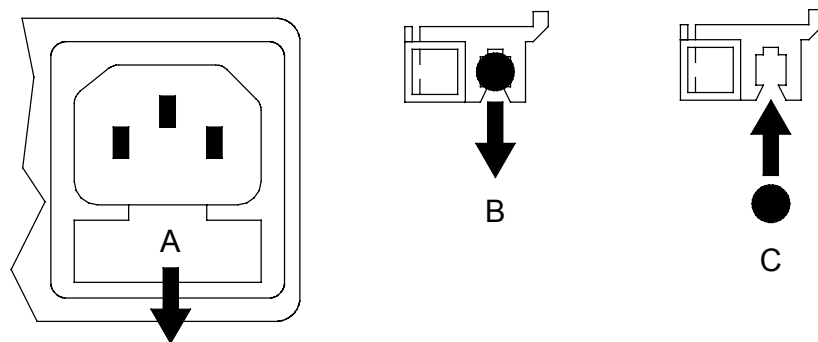

Figure 11 – Changing the Mains Fuse
Referring to **Figure 11**, remove the power cable, use a small flat bladed screwdriver to pry up the tab on the fuse carrier (A) and pull it out. Push the blown fuse out of the clip in the carrier (B) and dispose of it. Fit a new fuse in the clip (C) and push the carrier back into the unit so that it clicks home. Spare fuses are provided with the unit.